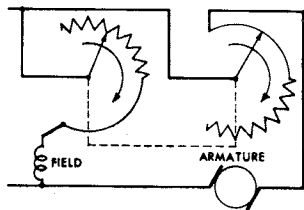
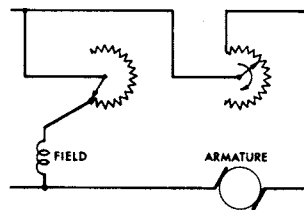

Fig. 52: Conventional tandem rheostat in field and armature circuit of motor.
Fig. 53: Sequence-coupled rheostat in field and armature circuit of motor.
(1) *The physical size of tandem rheostat assemblies used for motor speed control can be reduced considerably.* Where conventional tandem rheostats are used in combined motor-armature, motor-field or combined motor-field, generator-field control, opposite halves of the two rheostats must be “zero” resistance to permit full current to be maintained in one circuit while the current is varied in the other circuit (Fig. 52). With sequence-coupled rheostats, however, each rheostat controls its circuit in turn while the other remains fixed at the maximum current position. Hence, the zero resistance halves are not required (Fig. 53) and rheostat size may be approximately halved.